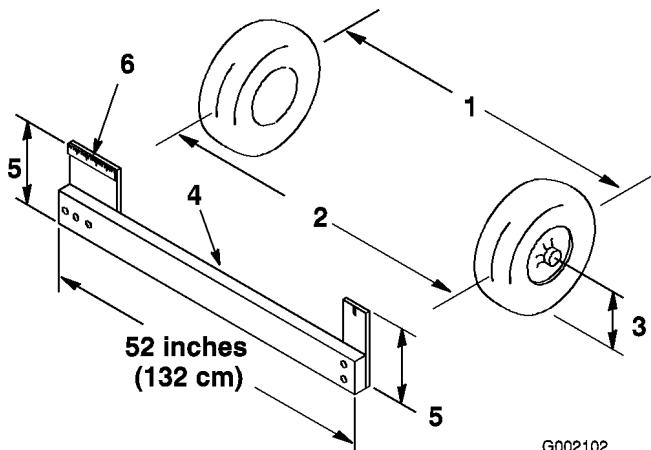

Figure 28
2. Measure the distance between both of the front tires at the axle height at both the front and rear of the front tires (Figure 28). A fixture or alignment gauge is needed for the rear measurement of the front tires at axle height. Use the same fixture or alignment gauge to accurately measure the front of the front tires at axle height (Figure 28).